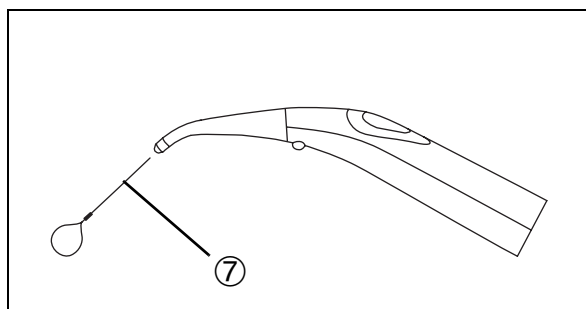

Fig. 20
If the small nozzles for water and air are blocked, remove the blockage using the cleaning wire ⑦ (Fig. 20).